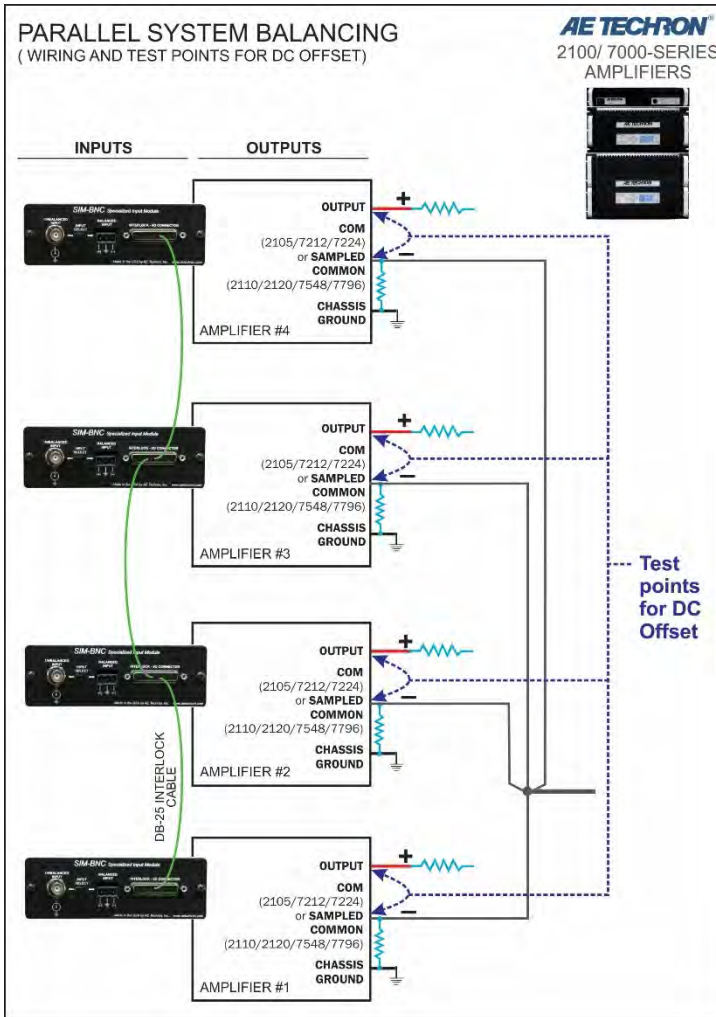

Figure 4.10 – Wiring and Test Points for DC Offset
5. Using a digital voltmeter set to DC, measure across the amplifier’s back-panel output connector terminals (OUTPUT to COM or SAMPLED COMMON) to verify that the DC offset of each amplifier is less than 5 mVdc. See **Figure 4.10**.